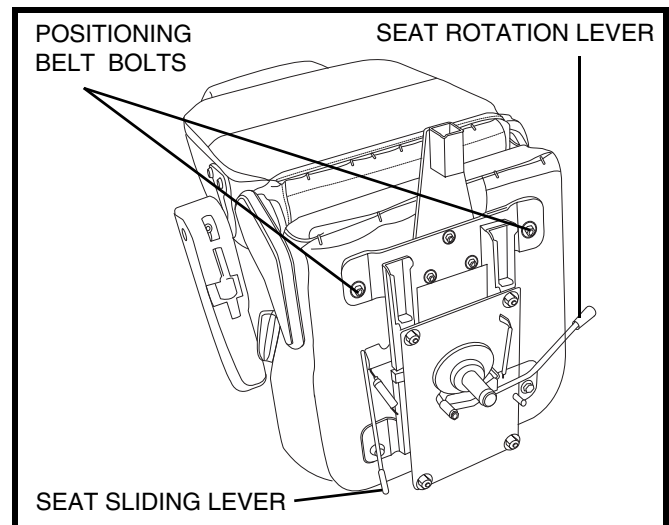

Figure 16A. Seat Adjustment Levers
1. Push forward on the seat rotation lever to unlock the seat. **See figure 16A.**
You can reposition the seat forward or backward to adjust the distance between the seat and the tiller. **See figure 16A.**
2. Place the seat upside down so that you can see the bottom of the seat base. See figure 16A.